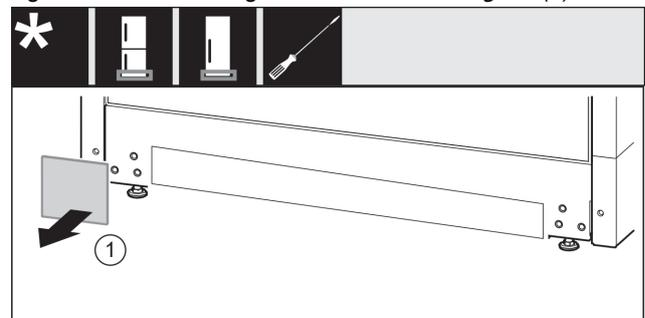

Fig. 15
- ▶ Remove the cover. Fig. 15 (1)